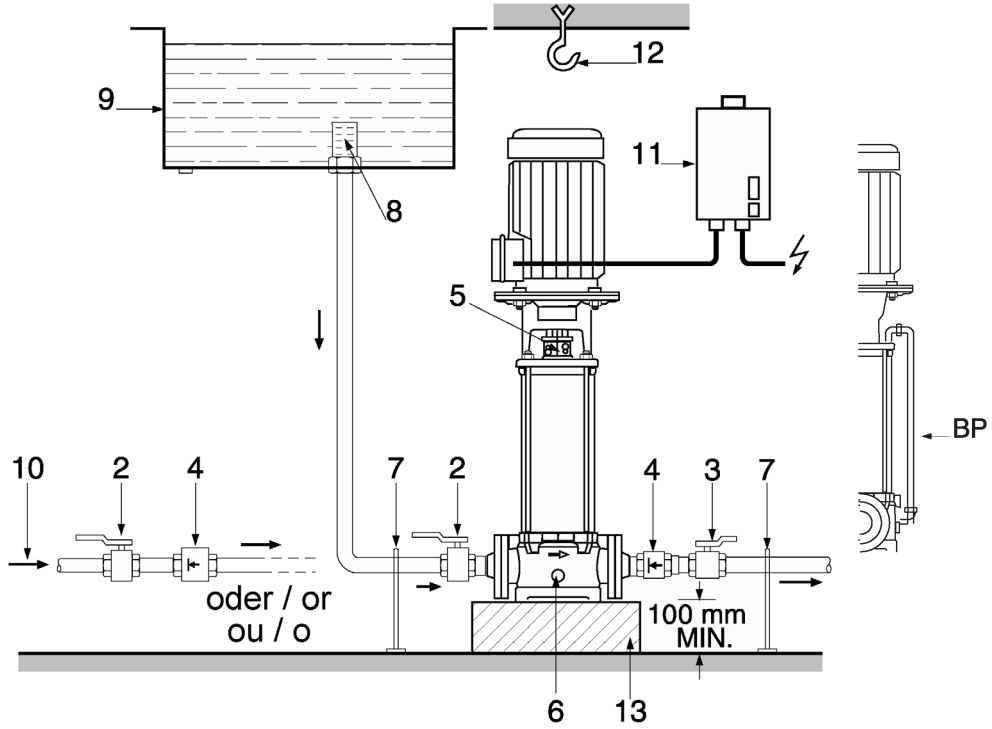

Fig. 3
#### Principal dimensions and connection dimensions (Table 2, see also Fig. 3):
- Dimensions for installation and connections are given in Paragraph 1.2.1, Table 2 and in Fig. 3.